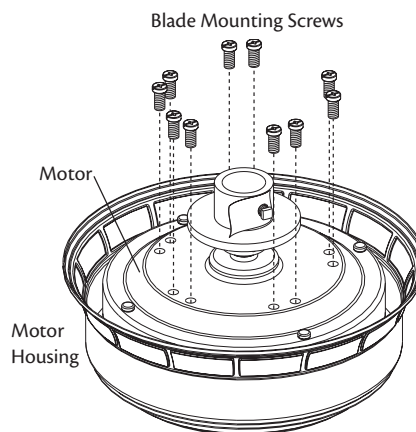

Figure 22 - Removing the blade mounting screws from the motor assembly
4. Remove the blade mounting screws from the top of the motor assembly as shown in figure 22